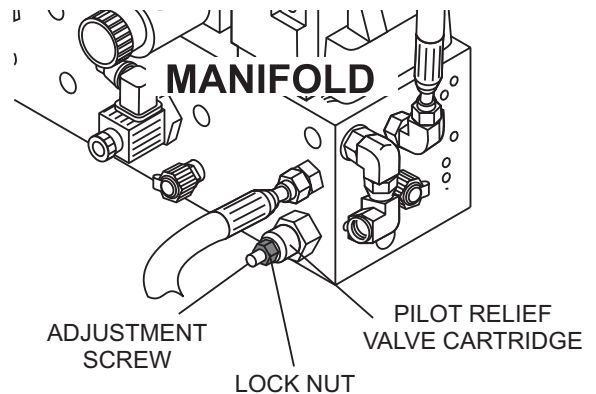

Figure 57. Pilot Relief Valve Cartridge Adjustment
4. Loosen the lock nut for the the accumulator circuit **pilot relief valve cartridge** (Figure 57), located at port **G4**. Using an allen wrench, turn the adjusting screw until pressure gauge reads **13.44 mPa (1,950 psi)** and tighten lock nut. Turn the engine off and on several times to make the pressure continues to read 13.44 mPa (1,950 psi).